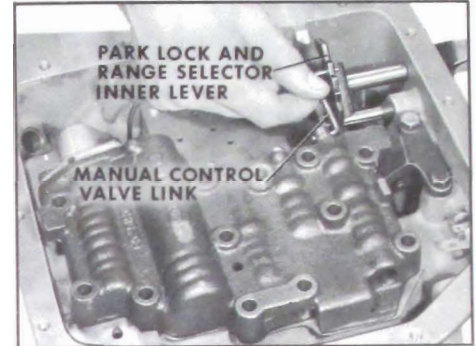

Figure 5-116
9. Remove manual control valve link by rotating valve body in a counterclockwise direction to remove link from Park lock and range selector inner valve. See Figure 5-116.